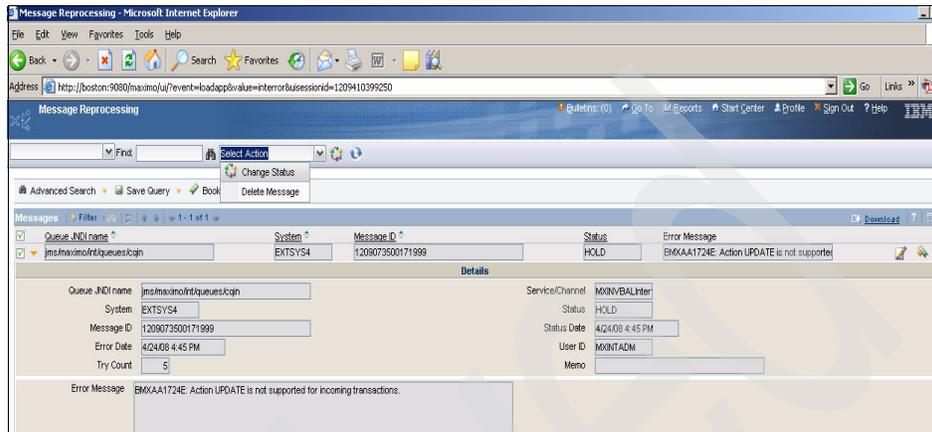

Figure 8-66 Message Reprocessing application
12. If you encounter an error, use the Message Reprocessing application to correct and reprocess the message. Select **Go To** → **Integration** → **Message Reprocessing** (see Figure 8-66).